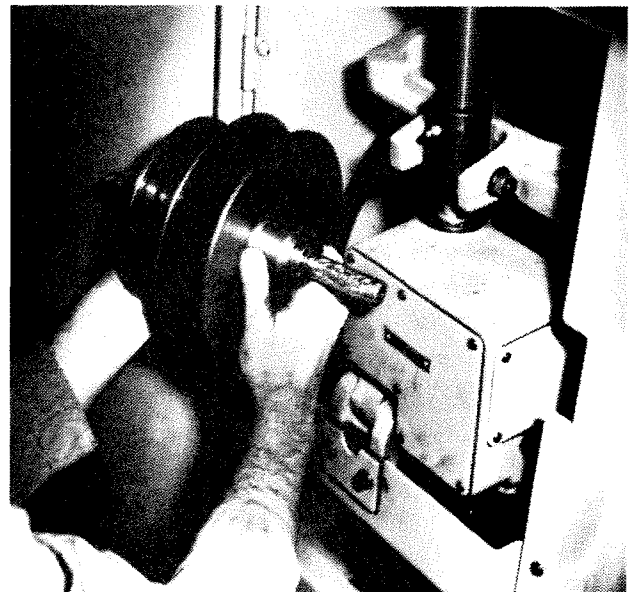

Figure 3.24 - Countershaft Removal
24. Move the pulley shaft to the right, out of the bearing on the left side, and remove the countershaft assembly, as shown in Figure 3.24 .